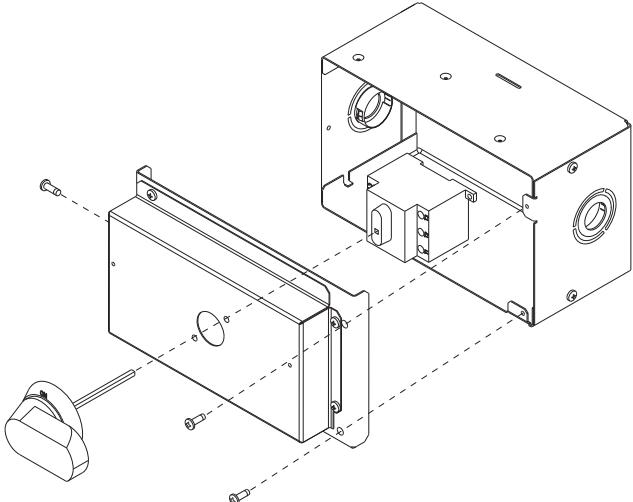

Fig. 24 — NFD Handle and Shaft Assembly
5. Insert the shaft with the cross pin on the top of the shaft in the horizontal position. See Fig. 24.
10. Secure the handle to the painted cover with (2) screws and lock washers supplied.
11. Engaging the shaft into the handle socket, re-install (3) hex screws on the NFD enclosure.